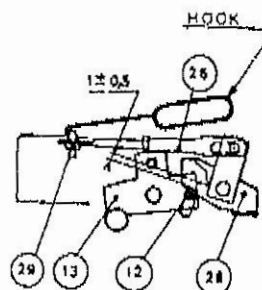
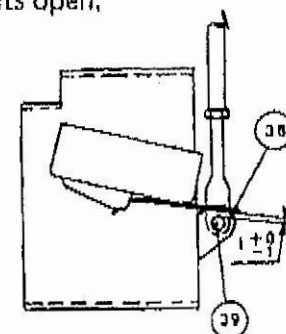

Fig. 17
Fig. 21
A. Tripping (Fig. 17 and 18)
- 1) Adjustment. Place breaker in open position and unscrew adjusting reset screw (30). With release bar in latched on position resulting from breaker being in open position, adjust linkage (26) to provide 1 ± 0.5 mm (0.039 ± 0.020 inch) between lever (28) and lug (12) of the latch (13).
A. Limit switch for Latch Indication. Place bar in latched position as shown in Fig. 17 and 18. In this position, the limit switch contacts will be closed. Deform strip (38) Fig. 21 to provide a maximum gap setting of 1 mm (0.039 inch) between strip (38) and lug (39). NOTE: This adjustment must be performed without applying voltage to the undervoltage holding coil. Following adjustment, operate voltage release device permitting release bar to unlatch. Inspect limit switch to see that contacts open.